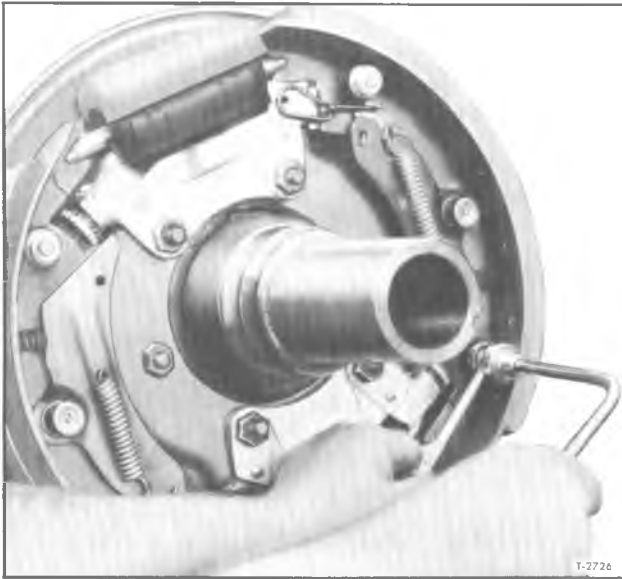

Figure 40—Removing Brake Shoe Hold Down Pins
5. Remove the brake shoe hold-down springs and pins by compressing the spring with Tool (J-22348) and, at the same time, pushing the pin back through the flange plate toward the tool. Then, keeping the spring compressed, remove the lock (C-washer) from the pin with a magnet (fig. 40).